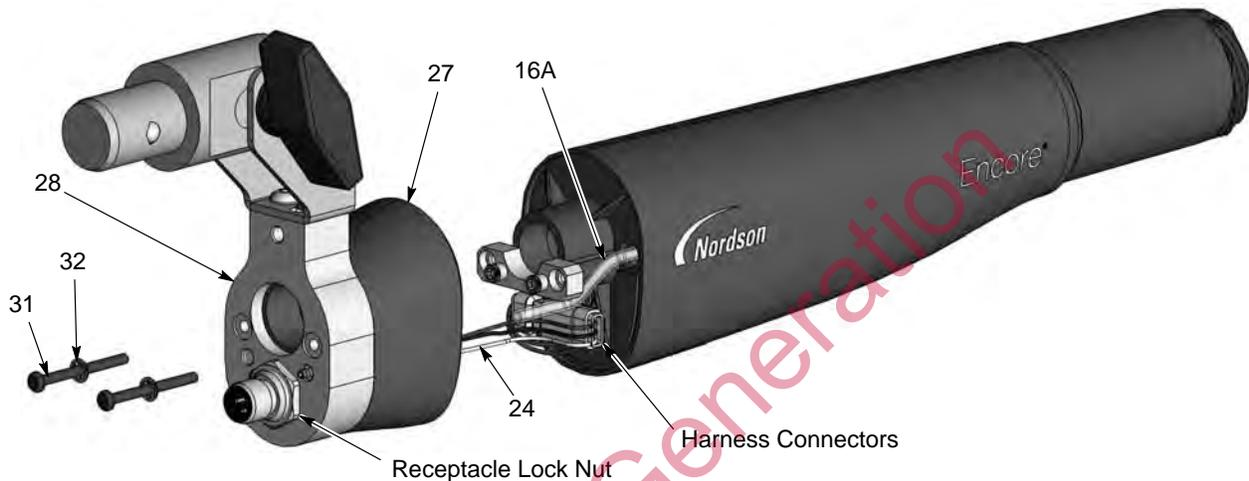

Figure 14 Gun Disassembly – Powder Tube Replacement
3. See Figure 14. Unscrew and remove the two Philips head screws (31) and internal-toothed lock washers (32) from the end cap (28).
- c. See Figure 14. Unscrew the lock nut from the receptacle, then remove the receptacle and harness from the end cap.
17. See Figure 14. Install the end cap and rear gun body assembly on the gun body, making sure not to pinch the harness wires.